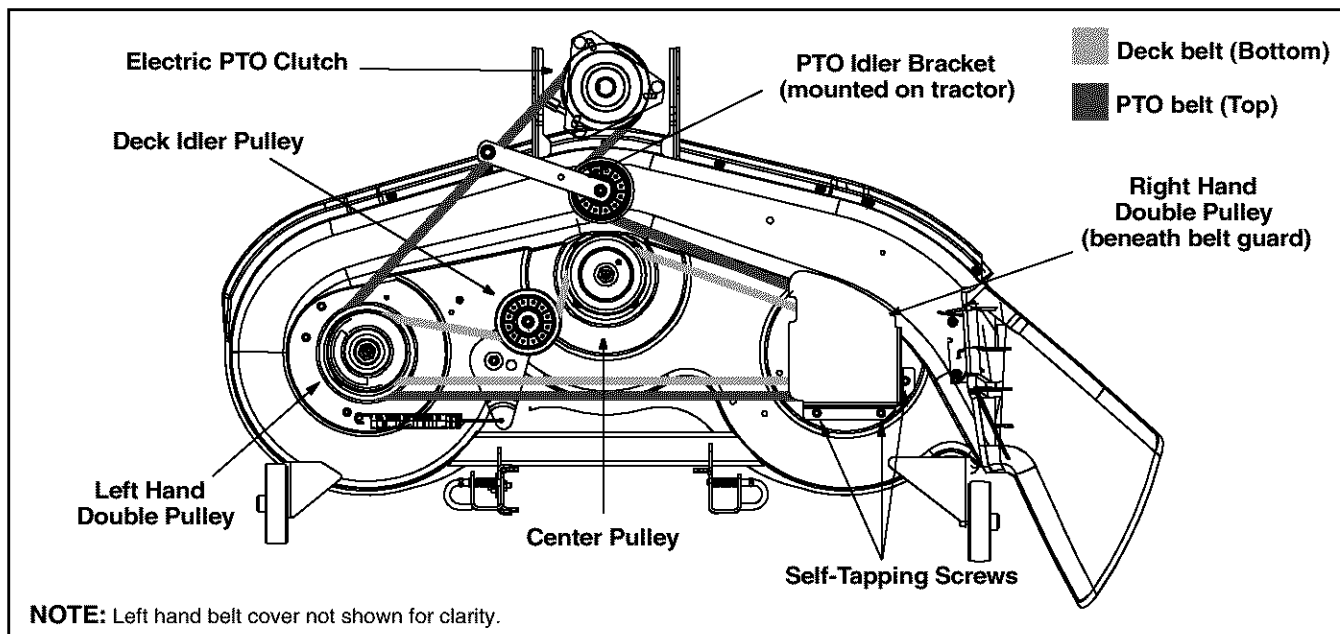

Figure 14
- Remove the PTO belt from around the electric PTO clutch. Refer to Figure 14.
- Route the new belts as shown in Figure 14.